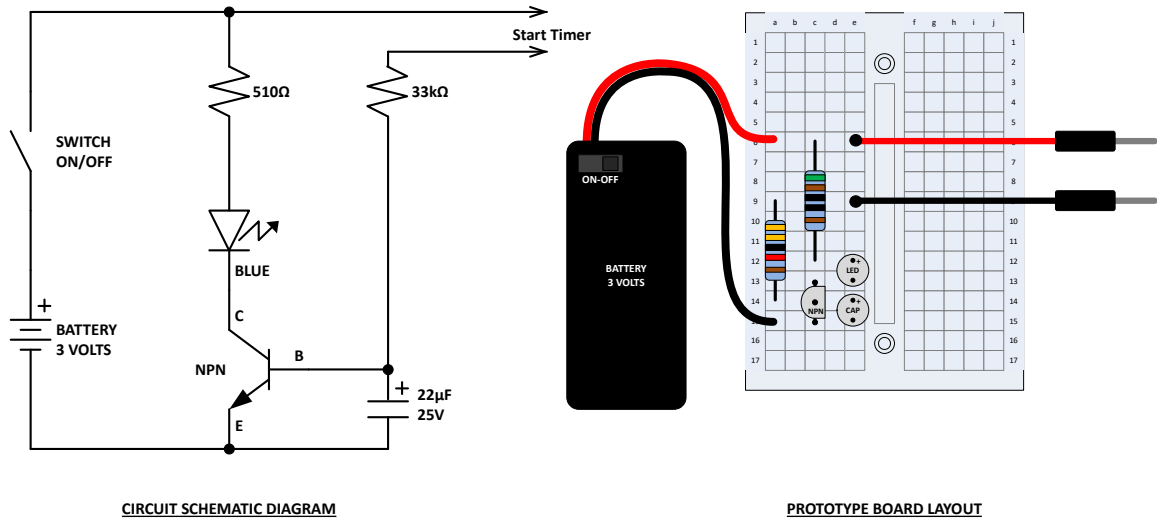
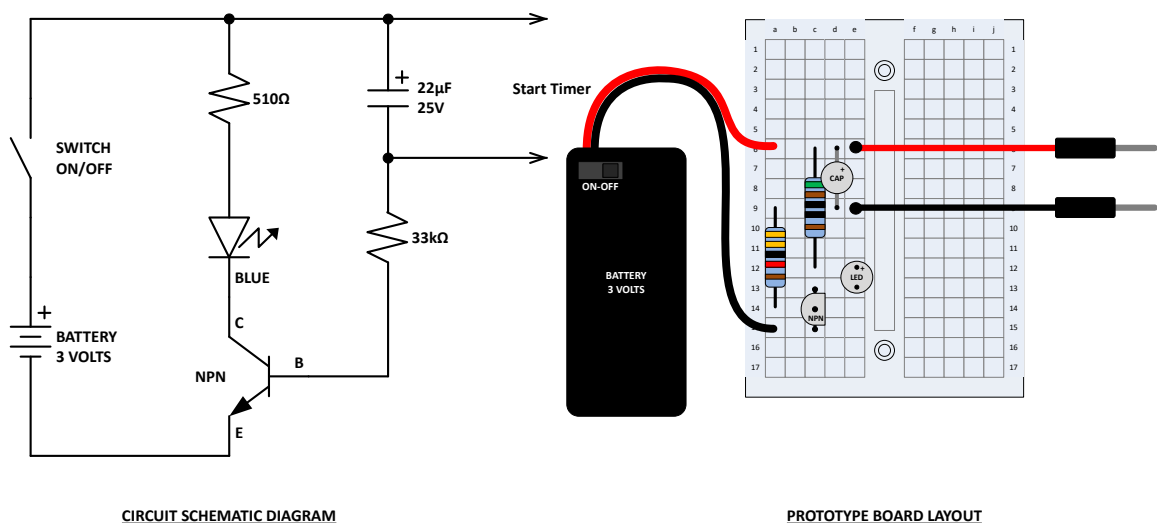

Figure 43: Capacitor Timing Circuit 1
Figure 44: Capacitor Timing Circuit 2
- b. Each student builds the circuit in Figure 43 using a prototyping board, 2 x 1.5V AA batteries, 3V switched battery holder, 33kΩ and 510Ω 1/4W resistors, 22µF 25V electrolytic capacitor, 2V blue LED, an NPN transistor and two pin leads. Provide the batteries after the circuit has been checked.
- Each student modifies the circuit in Figure 43 to match the circuit in Figure 44. Simply remove the capacitor, spread the leads apart a little bit and re-insert it across the pin-leads.